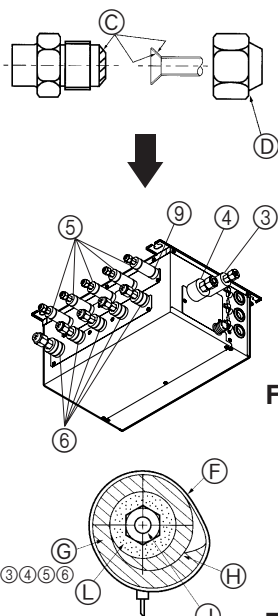

Fig. 7-2
- ③ Apply refrigeration oil to the entire (Fig. 7-2) surface of the flared seat.
- ④ Basically use flared nuts fitted to the body (commercially available flared nuts may crack).